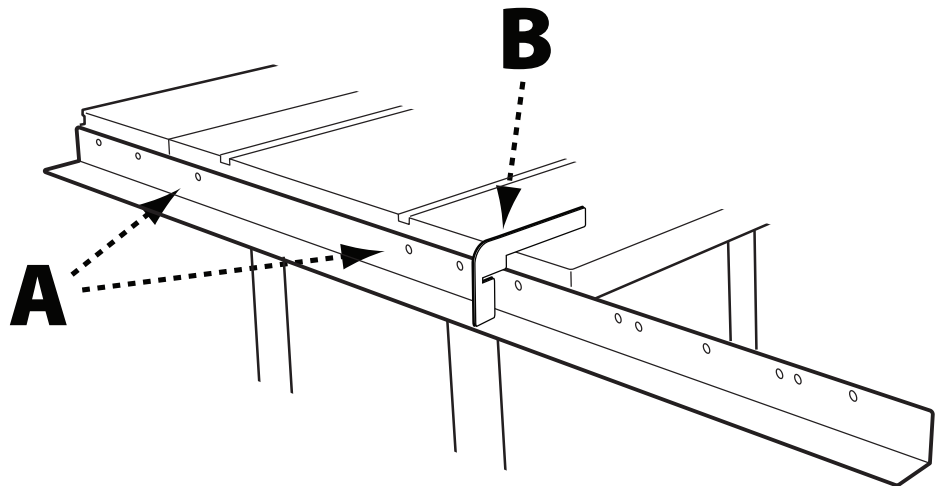

FIGURE 3
1. With the left edge of the front guide rail near the edge of the left extension wing, (see Fig. 3) align the two holes in the table, set approximately eight inches on either side of the blade, with the holes (A) in the front guide rail.
3. Ensure the front guide rail is parallel to the cast iron table top by using the rail alignment gauge (B) to check the distance from the front guide rail to the table at both sides of the saw table.